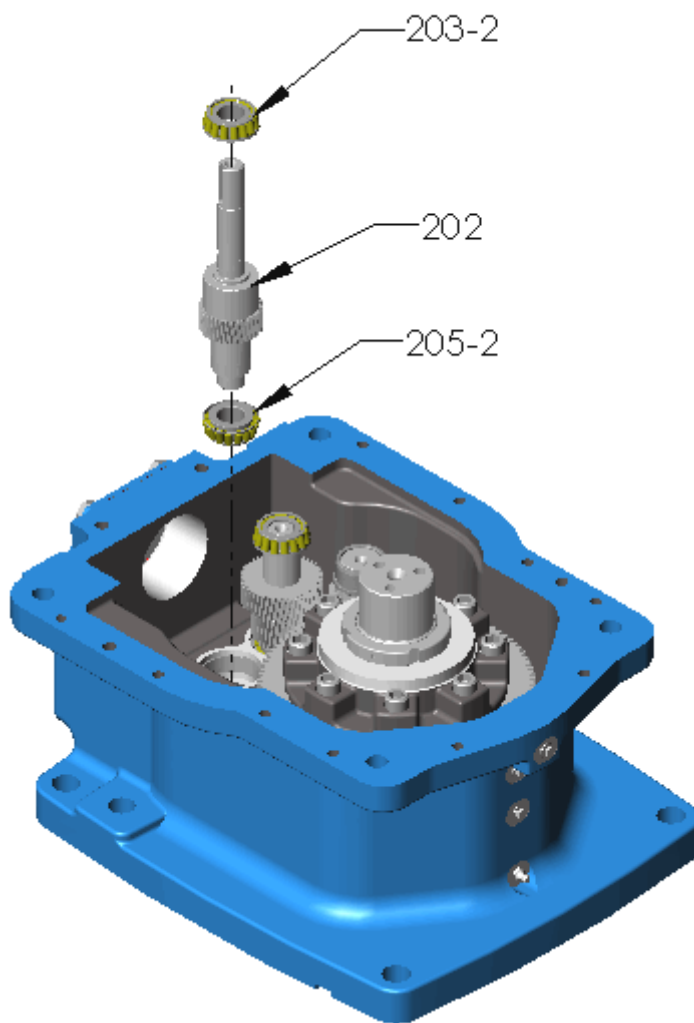

Figure 19 – Input Shaft
- N. Input shaft assembly (refer Figure 19):
- O. Install input shaft **[202]** assembly in the bearing cup **[205-1]** in the case bottom (refer Figure 19).